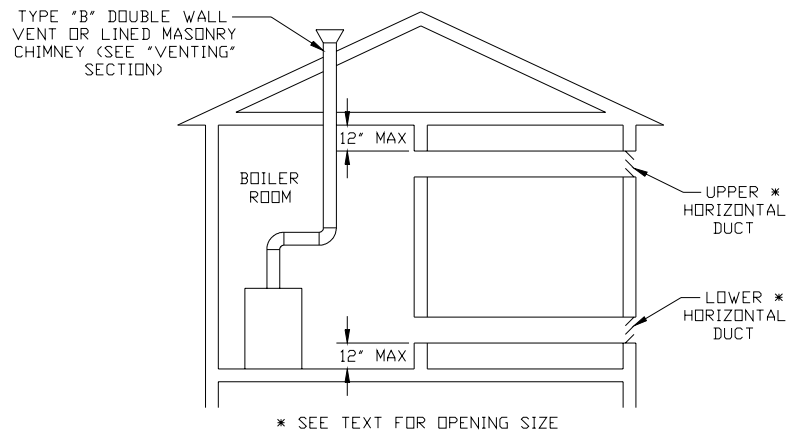

Figure 14: All Air From Outdoors, Using Horizontal Ducts Into The Boiler Room
- c. **Horizontal ducts** to the outdoors (Figure 14) require a minimum free area of 1 square inch per 2,000 Btu per hour input of all fuel burning appliances in the boiler room space but not less than 100 square inches. The cross-sectional area of the duct shall be the same as the required free area opening. The minimum opening size is 3 inches.